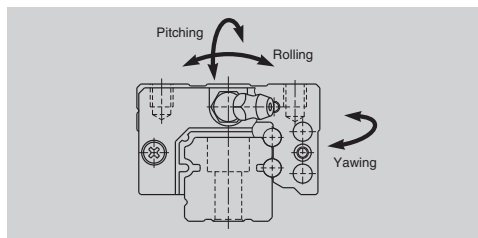

Fig. 3.5 Moment rigidity
- 2) Moment rigidity: Three moment directions, pitching, rolling, and yawing (Fig. 3.5).